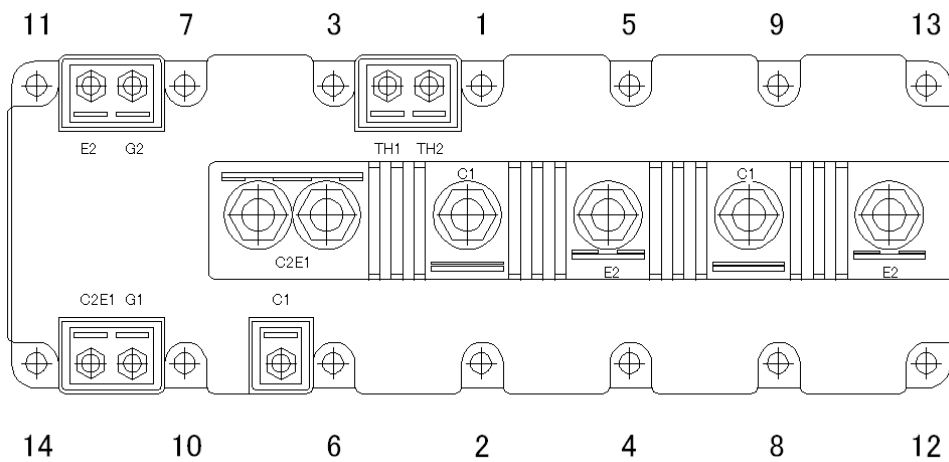

Fig.1 Mounting holes 1 – 14 in M272 modules
(b) Pre-fastening is recommended with 1/3 of the final torque and sequence of (1) - (14) in Fig.1.